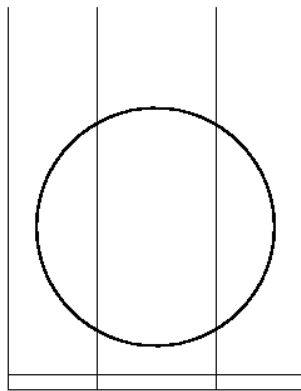

Figure 4.2.5: Surfaces That Define a Circle
- (b) Under **Shapes to try**, select the shapes that you want Airpak to try to fit to the CAD geometry. For example, if you are converting the surfaces shown in bold in Figure 4.2.5 into a fan, select **circ** (circular) in the **CAD data** panel and deselect all other shapes under **Shapes to try**.